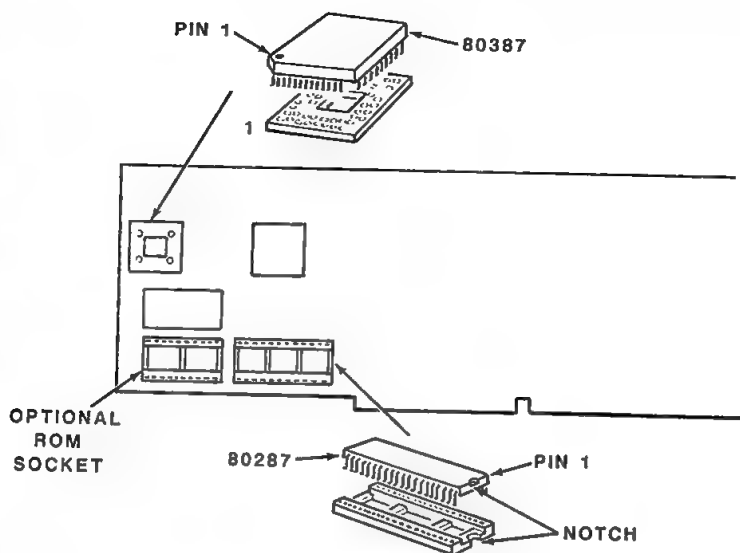

Figure 2-7. Installing Optional ICs
- Remove the CPU card from slot 4. Use the information in Table 2-3 to select the appropriate socket and install the optional IC. Figure 2-7 illustrates the location of the optional IC sockets and proper installation procedures.